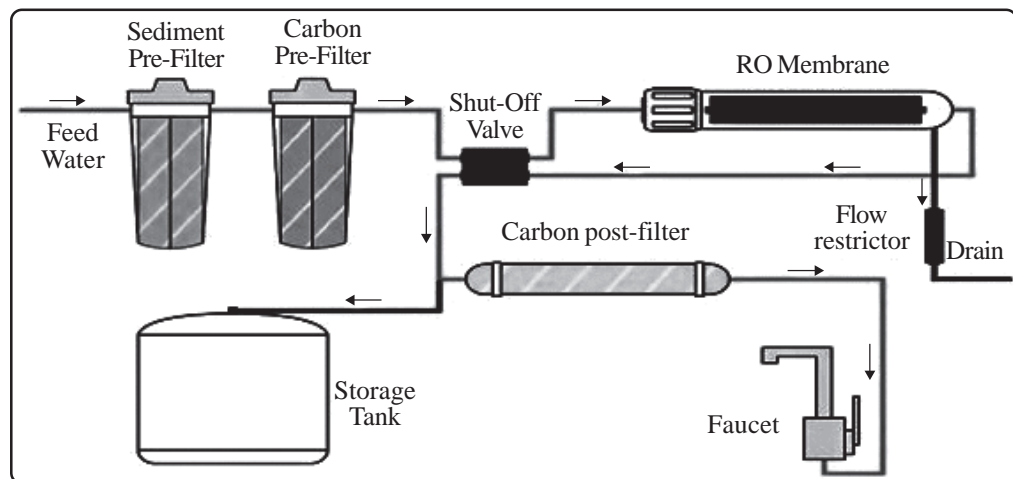

Figure 3.1 : Water Purifier connection diagram
- Here’s an easy-to-understand diagram of how a **water purifier system works**. The phases are identified in the **water purifier water plant** flow diagram, Fig. 3.1, while the arrows indicate water flow, i.e. the plumbing connection.